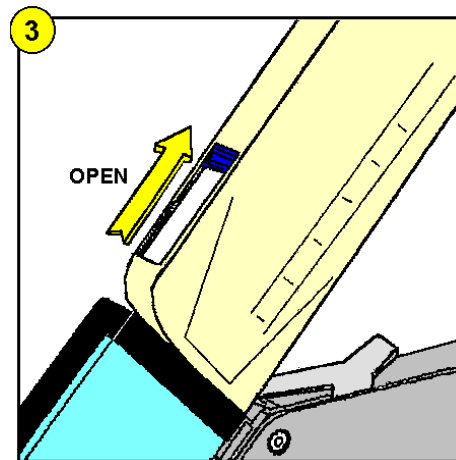

FIGURE 2.3.3
- Open the case(s) in the direction as shown in figure 2.3.3. The components will fall out of the case into the bulk cassette.